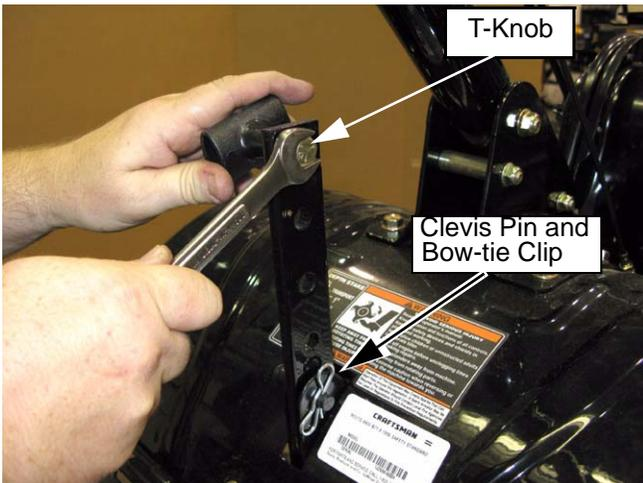

Figure 4.7
12. Remove the T-knob, flat washer, and hex screw from the depth stake. See Figure 4.7.